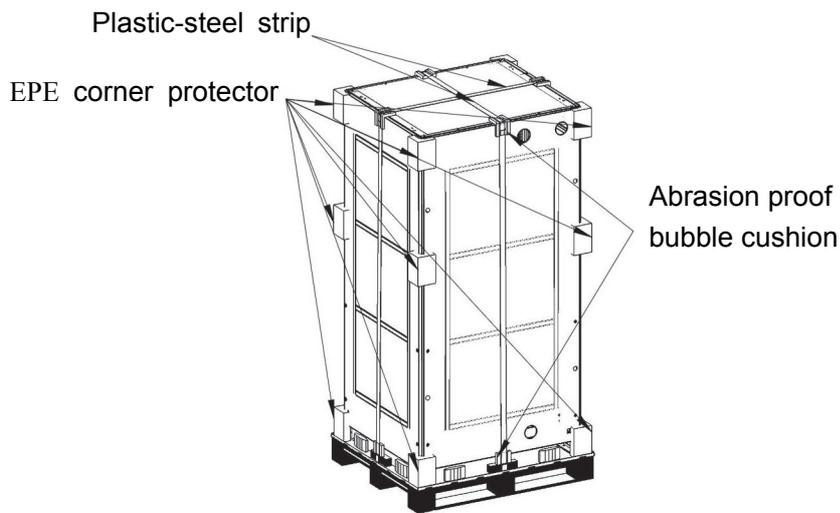

Fig. 6-3 Cabinet fastening
- After the cabinet is laid on the pallet, the whole cabinet shall be packaged with a VCI gas phase rustproof bag with 500g montmorillonite desiccant spread uniformly around the cabinet body. After sealing, the tightening plastic-steel strip can be configured to fix the cabinet body so as to prevent the cabinet body from shaking it up and down. The common abrasion proof bubble cushions shall be filled in the contacts between the plastic-steel strip and the cabinet corners when binding the plastic-steel strip. Afterwards, the EPE foam corner protector shall be adhered to the corners of the cabinet by means of adhesive tape, as shown in Fig. 6-3.